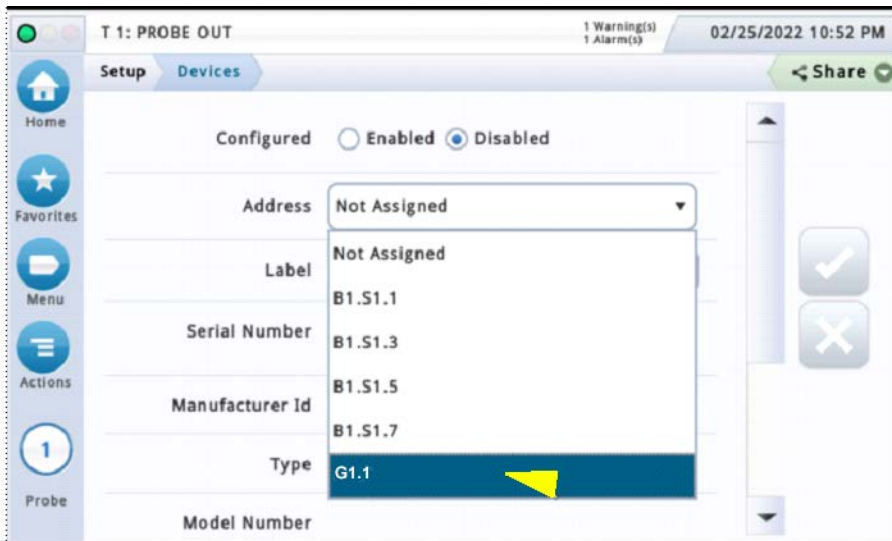

Figure 44. Example – Selecting First Transmitter Gateway Address
5. Navigate to the Setup>Device screen and select the device type (e.g., Probe or MAG Sensor) from the ribbon on the bottom. If the selected device number (e.g. Probe 1) has the Configured field set to Enabled, then instead select a different device number that has the Configured field set to Disabled. In the **Address** field select the down arrow and select the address noted in Step 4. (e.g. G1.1) (see Figure 44).